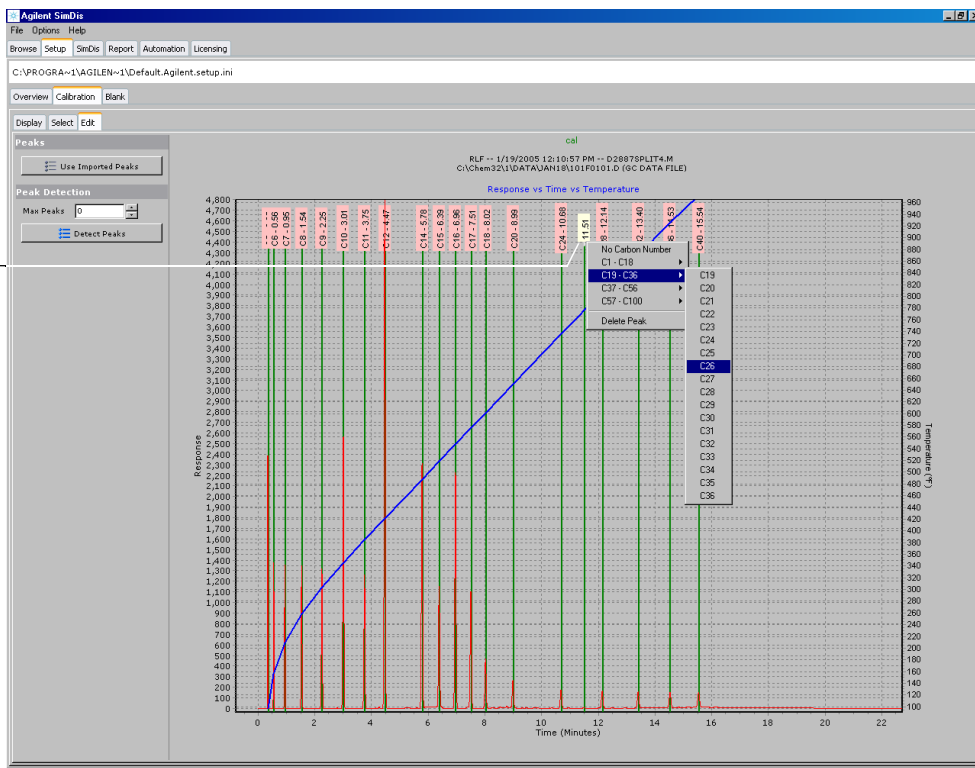

Figure 16 Carbon number assigned to added peak
- 4 Assign a carbon number to this added component as described previously. In this case, assign “C26” as it is a reasonable choice for a component whose retention time falls between that of “C24” and “C28” (Figure 16).